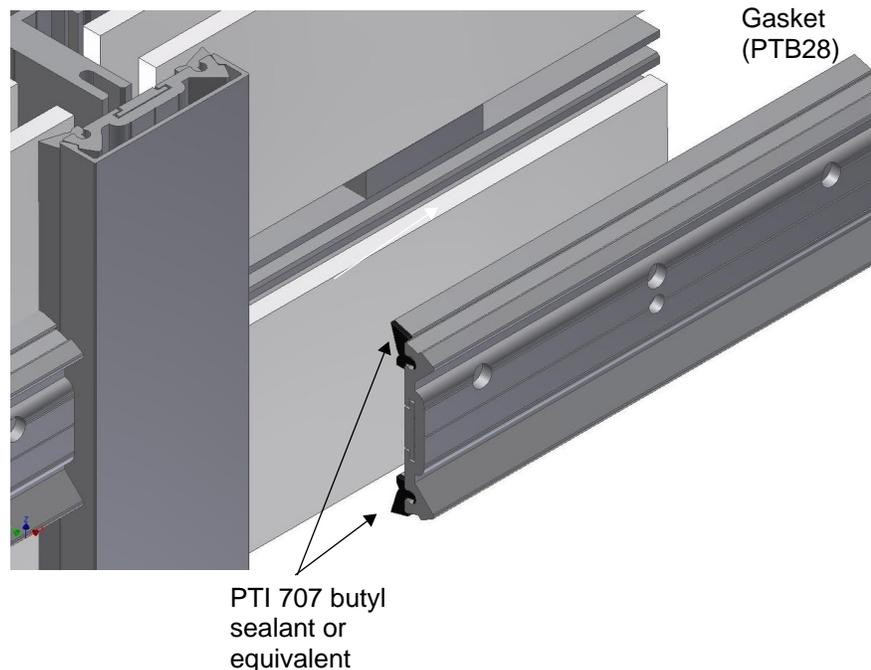

Figure 23: Butter the ends of the gaskets in the horizontal pressure plate with butyl sealant.
- Butter the ends of the gaskets in the horizontal pressure plate with butyl sealant as shown in Figure 23.